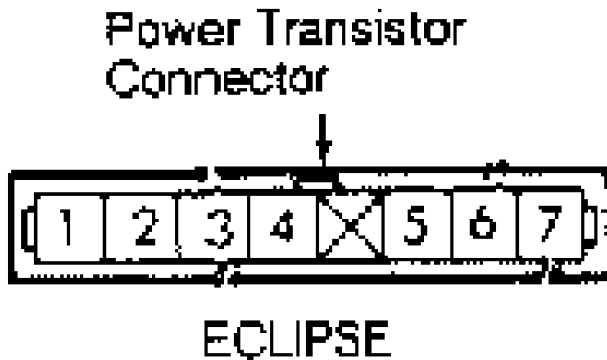

Fig. 4: Power Transistor Connector ID (Eclipse)
1) Disconnect power transistor connector. Using an analog ohmmeter, connect positive ohmmeter lead to terminal No. 7 and negative lead to terminal No. 3. See Fig. 4. Ensure there is no continuity.